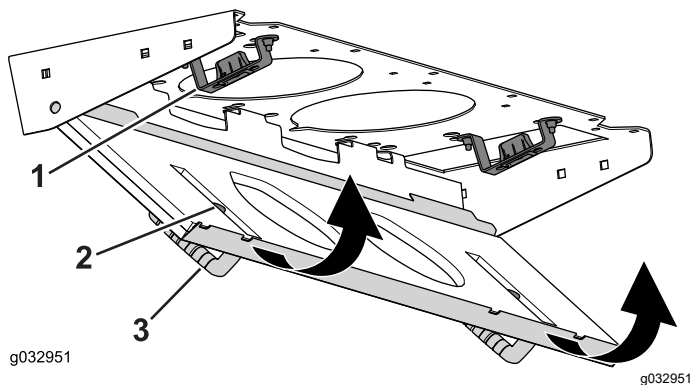

Figure 147
4. Rotate the filter screen around the tabs until the latch locks into the latch-mount assembly (Figure 147).